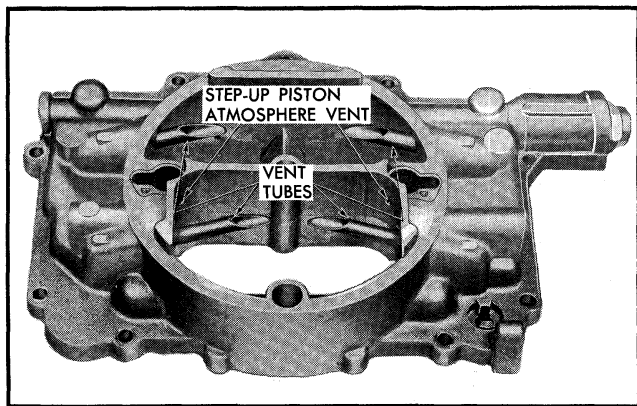

Fig. 6B-84 Passage Identification - Air Horn
2. Blow out all passages (Figs. 6B-84, 85, 86, 87, and 89) in casting with compressed air and blow off all parts to ensure they are free of cleaner.